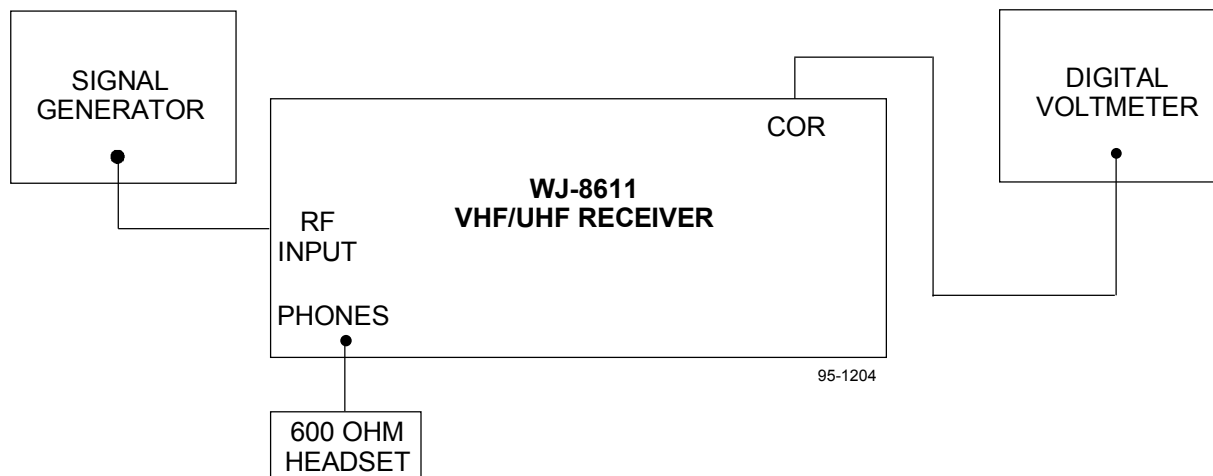

Figure 6-3. Squelch Operation Performance Test, Equipment Connection
1. Connect the test equipment as illustrated in **Figure 6-3**.